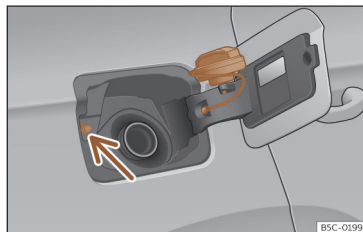

Fig. 202 Fuel tank flap with tank cap attached.
Avoid touching the fuel tank flap lock button »» » Fig. 202 (arrow). The system will interpret that you have finished and cannot continue refuelling. Press the  button on the driver's door again to continue.
- Place it in the space on the hinge of the open flap»» » Fig. 202.